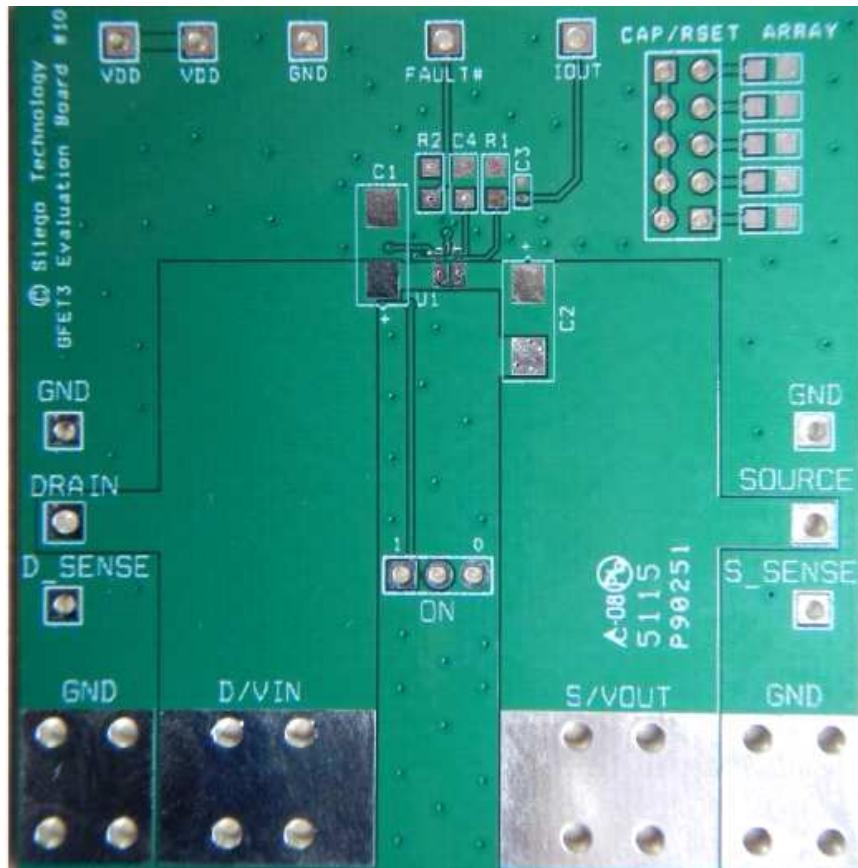

Figure 19. SLG59M1713V Evaluation Board
2. Since the VIN and VOUT pins dissipate most of the heat generated during high-load current operation, it is highly recommended to make power traces as short, direct, and wide as possible. A good practice is to make power traces with an absolute minimum widths of 15 mils (0.381 mm) per Ampere. A representative layout, shown in Figure 19, illustrates proper techniques for heat to transfer as efficiently as possible out of the device;
A GreenFET Evaluation Board for SLG59M1713V is designed according to the statements above and is illustrated on Figure 19. Please note that evaluation board has D_Sense and S_Sense pads. They cannot carry high currents and dedicated only for $R_{DS_{ON}}$ evaluation.